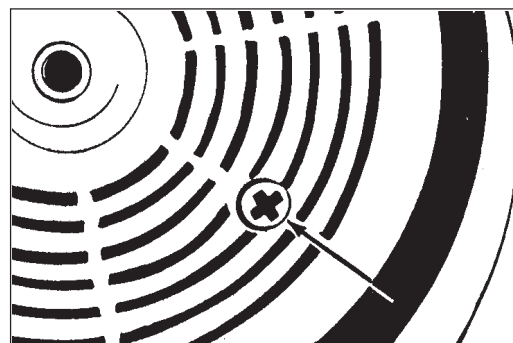

Figure 7
3. Align both holes with one of the three screws in the gear housing cover. Remove the screw from the gear housing cover. (Figure 7)